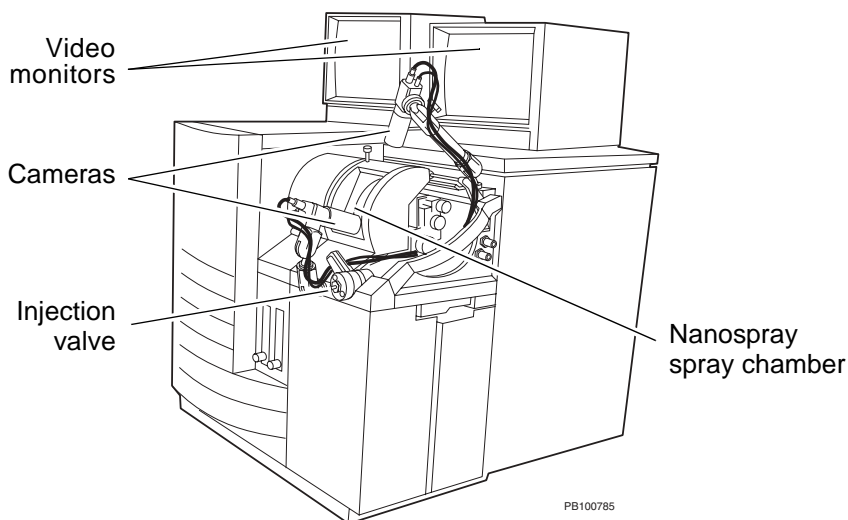

Figure 1-2 Parts of the Nanospray Module
4. Place the video monitors on the top left of the Mariner Workstation (see Figure 1-2 on page 2).